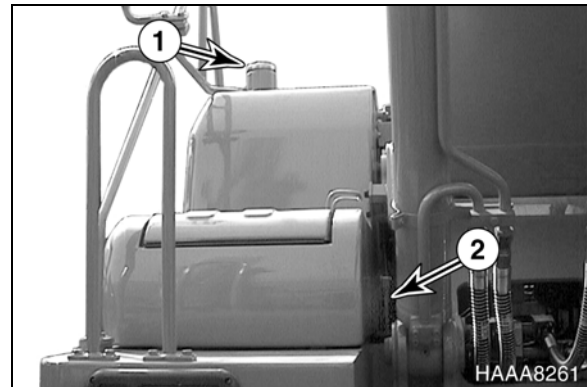

Figure 17
1. At end of each work day, fill fuel tank. Add fuel through fuel filler tube (1, Figure 17). When working at a temperature of 0°C (32°F) or higher, use ASTM No. 2-D or its equivalent. At temperatures below 0°C (32°F) use ASTM No. 1-D or its equivalent.
3. Check the amount of fuel in the tank by observing the fuel tank sight gauge (2, Figure 17) and fuel gauge in monitor panel. Fill the tank using the fill tube with the proper fuel for the operating conditions.